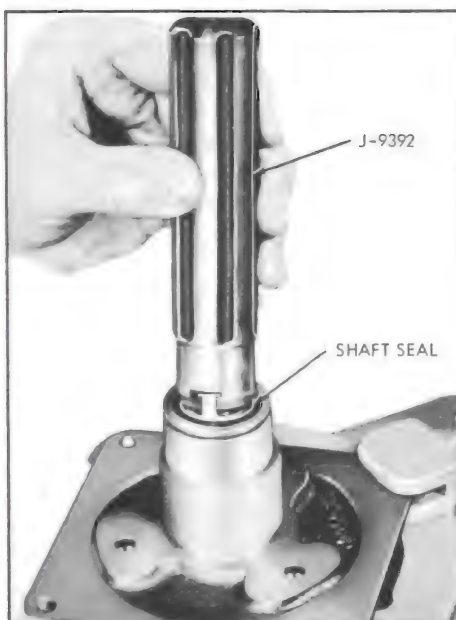

Figure 11-112—Removing or Installing Shaft Seal
4. Engage tabs on shaft seal assembly with locking tangs on J-9392 Seal Installer and Remover. Press down on tool and twist clockwise to engage. Remove shaft seal by pulling straight out. See Figure 11-112.